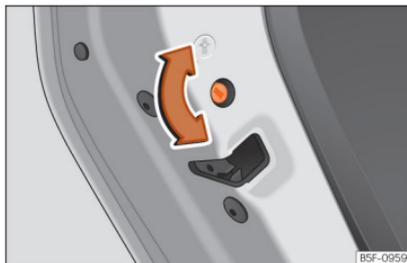

Fig. 91 Childproof lock on the left hand side door.
- With the door open, rotate the groove in the door using the ignition key, clockwise for the left hand side doors »» Fig. 91 and anti-clockwise for the right hand side doors.
- With the door open, rotate the groove in the door using the ignition key, anti-clockwise for the left hand side doors »» Fig. 91 and clockwise for the right hand side doors.